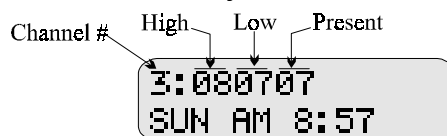

Figure 9-1 Mode 25 Display
To enter troubleshooting mode:	Press [2] [5] [ENTER] + Code 0 or 1. The first line of the display will show the default channel number (3). (See Figure 9-1 for an example.) Press [ENTER] if you want to view information for channel 3.